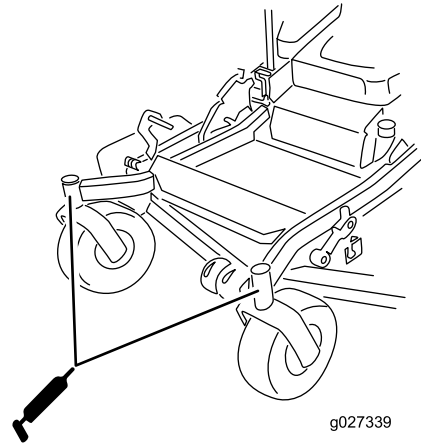

Figure 43
10. Install the hex plug and dust cap (**Figure 43**).
11. Grease the caster-wheel bearings (**Figure 43**).